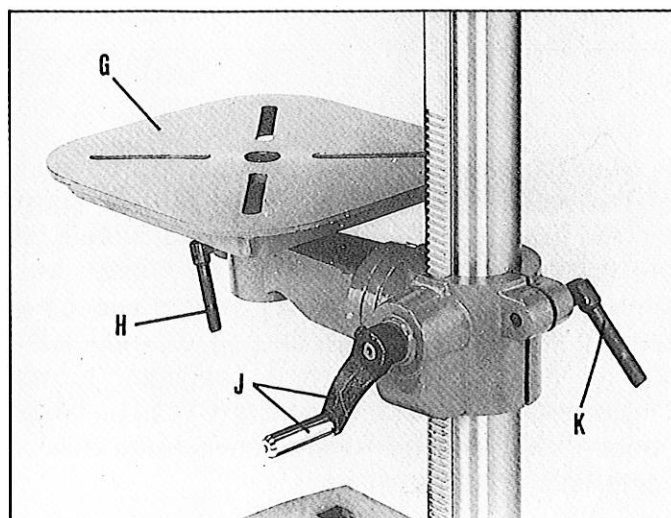

Fig 28
1. The table (G) Fig. 28, can be raised or lowered on the drill press column by loosening the table clamp handle (K) and turning the table raising and lowering handle (J). After the table is at the desired height, tighten handle (K).
2. The table (G) Fig. 28, can be rotated 360 degrees on the table bracket by loosening lock handle (H).